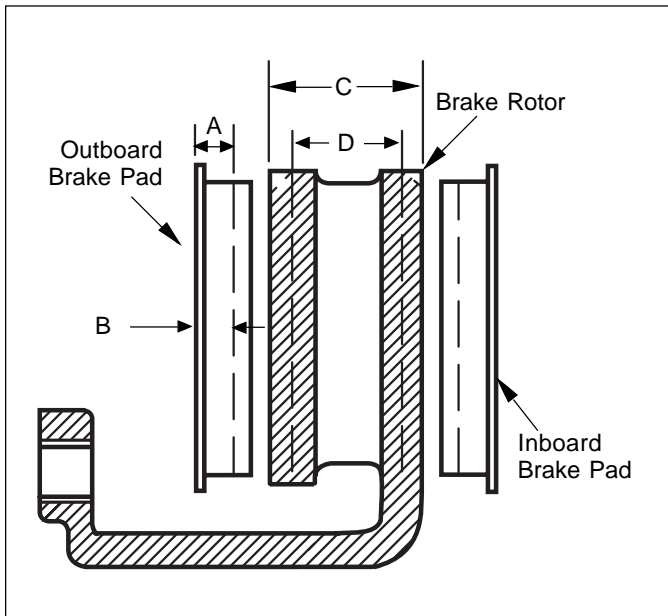

Figure 4 - Brake Pad and Rotor Wear Measurement
10. Measure thickness of friction material on brake pads (Figure 4).